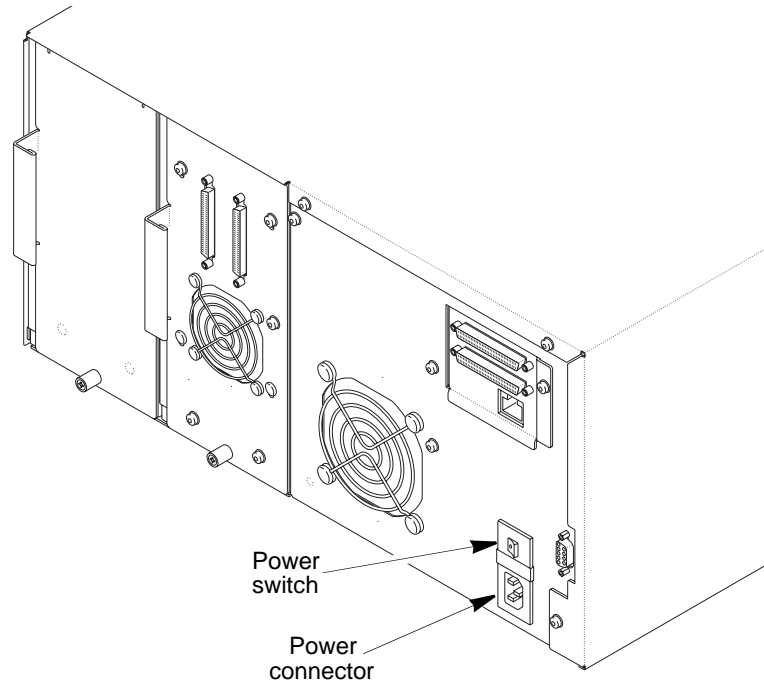

Figure 2-16 Location of library's power connector and power switch
1. Make sure that the power switch on the back of the library, shown in Figure 2-16, is off (the 0 is pressed).